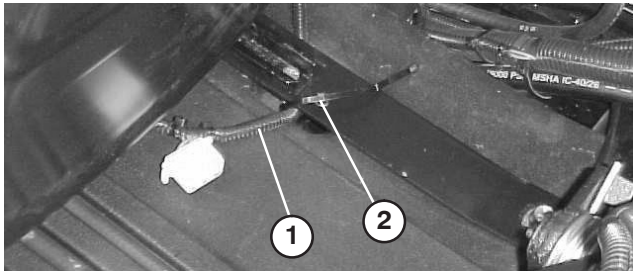

Figure 6
6. Slide the seat all the way forward, pull wire to the right so unused connector is positioned as shown in figure 6 and secure seat switch wire to rear most hole in seat strap with a cable tie (cable tie supplied with seat kit).